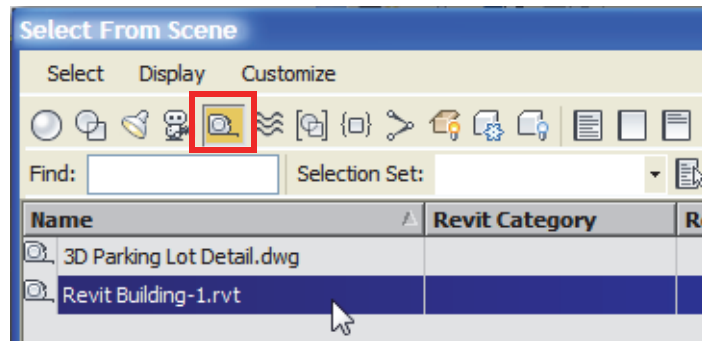

Figure 3–34
14. In the Select From Scene dialog box toolbar, click  (Display None) to clear any selection group and click  (Display Helpers). Locate and select **Revit Building-1.rvt**, as shown in Figure 3–34, and click .